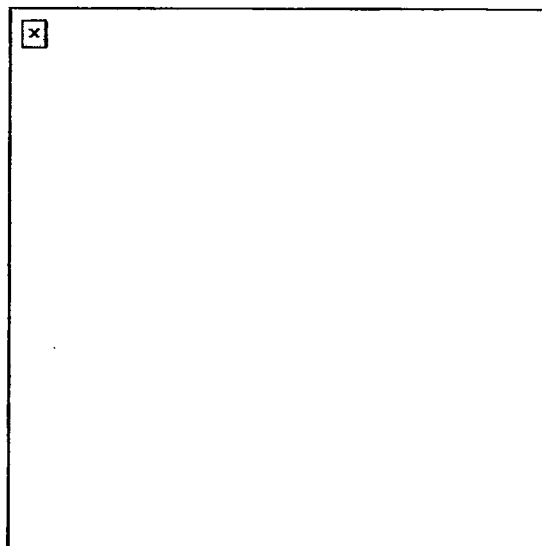

Figure 12. Adjusted aiming point method.
b. Adjusted aiming point. Use this method to quickly adjust fires without making a sight or T&E adjustment (Figure 12).
(1) If the initial burst misses the target, rapidly select a new aiming point the same distance from the center of impact of the initial burst but in the opposite direction.
(2) Lay the gun on that aiming point and fire.